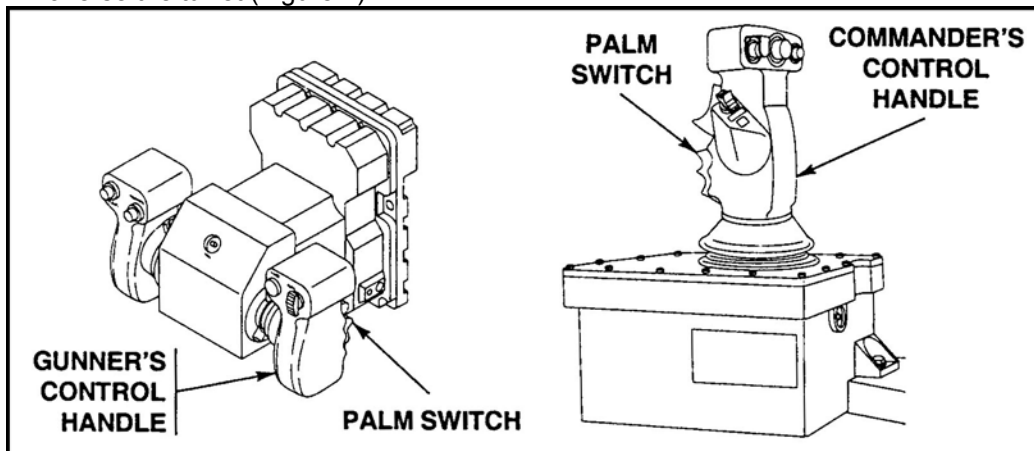

Figure 7. Commander's and gunner's hand stations.
- (2) If the DRIVE MALF annunciator light is on.
- (3) If the DRIVE MALF annunciator light comes on again.
- n. Traverse the turret (Figure 7).